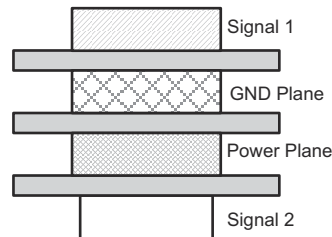

Figure 11-1. Four-Layer Board Stackup
- Due to high-frequency signals, a printed-circuit board with at least four layers is recommended; two signal layers separated by a ground and power layer as shown in Figure 11-1.